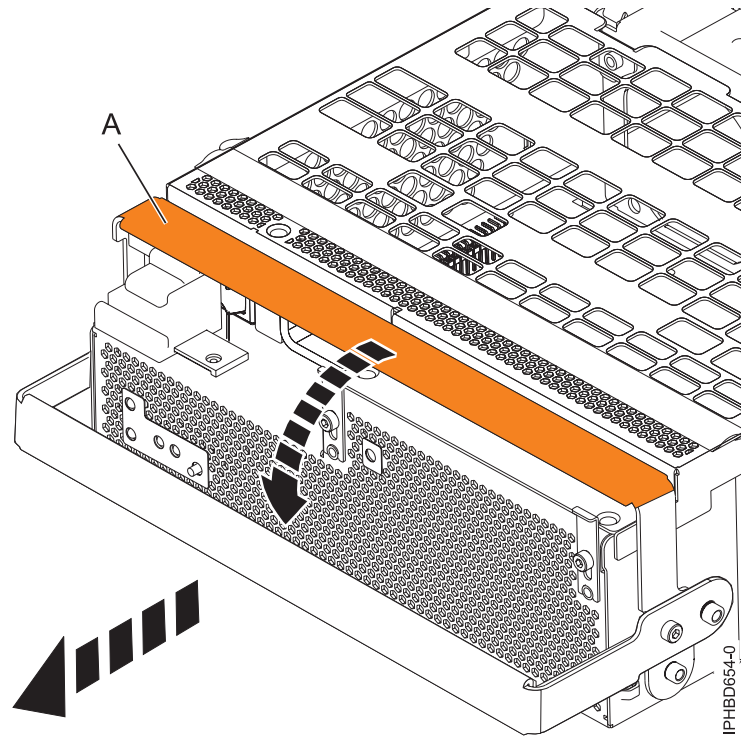

Figure 9. Removing a power supply
8. Rotate the power supply locking handle (A) to the open position, as shown in Figure 9. Pull out the power supply from the expansion unit.